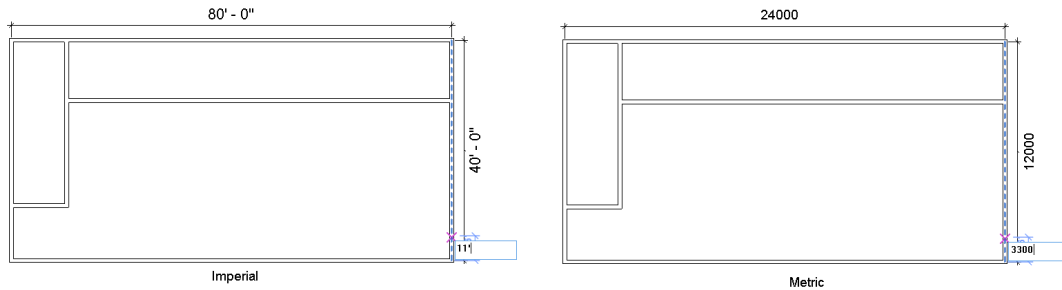

Figure 3-69 Specifying the distance for starting the first interior wall segment
- To sketch the third interior wall, place the cursor towards the lower right corner of the wall segment and move the cursor upward. Enter **11'0"** for Imperial or **3300 mm** for Metric and then press ENTER, as shown in Figure 3-69; the starting point of the interior wall is specified.